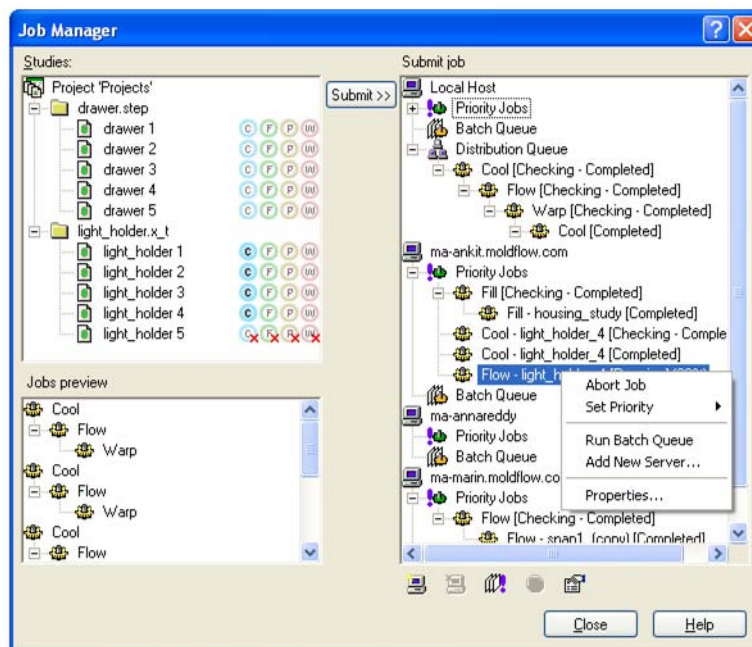

Figure 563: Analysis properties
2. Right click over the analysis of your interest, as shown in Figure 563.